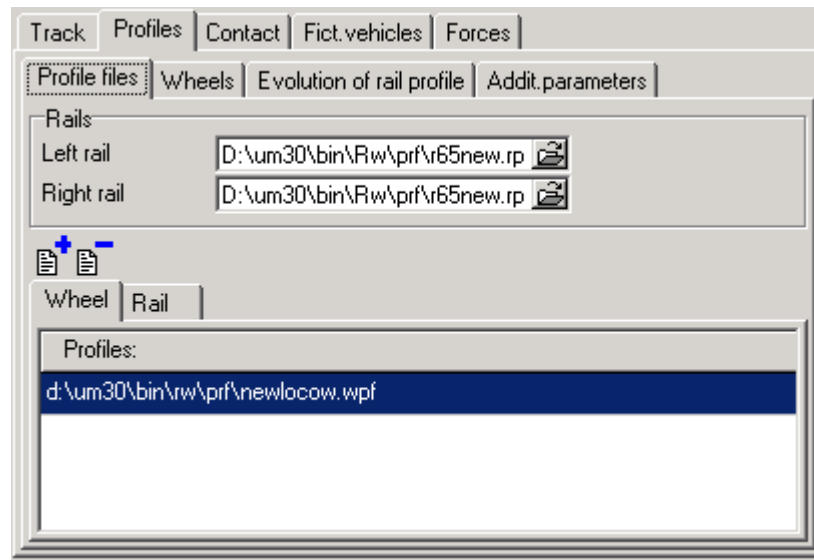

Figure 3.10. Rail and wheel profiles
2. Load rail profiles from the **r65new.rpf** file, and set **newlocow.wpf** profile for all wheels, see Fig. 3.10.